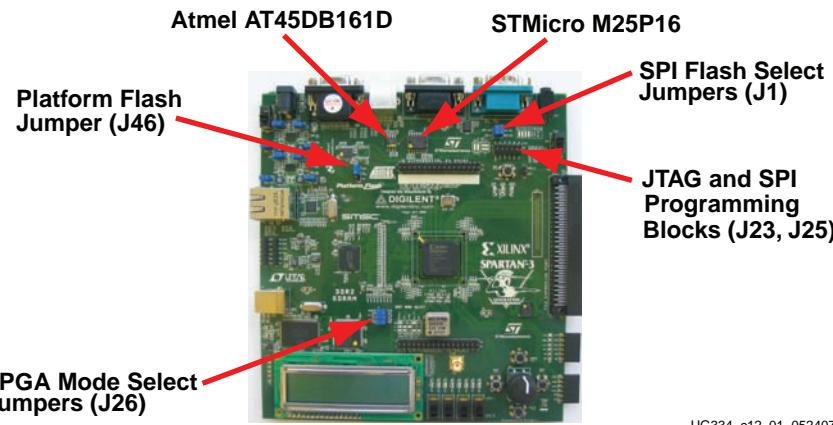
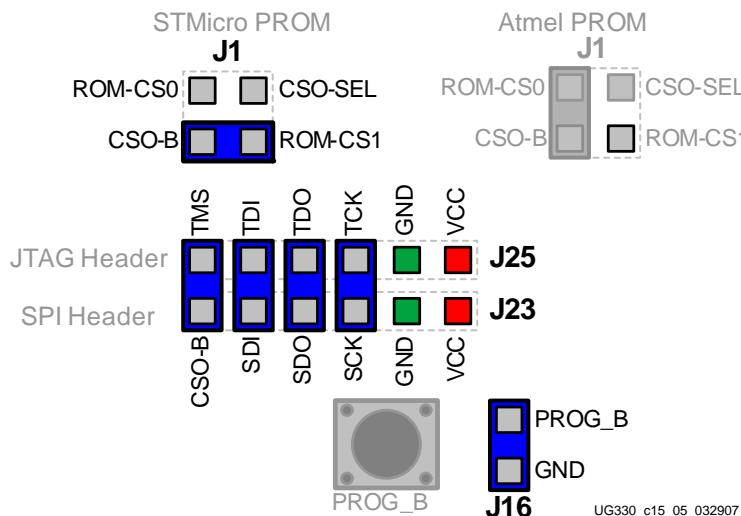

Figure 12-1: SPI Serial Flash PROMs and Associated Jumpers
Figure 12-4: Jumper Settings for Direct SPI Flash Programming
The Spartan®-3A/3AN FPGA Starter Kit board includes two different styles of SPI serial Flash, as shown in Figure 12-1. Only one style is available to configure the FPGA. After configuration, however, the FPGA application has full access to both PROMs for data storage or Flash update purposes.
The J1 jumper block, shown in Figure 12-1, defines which SPI Flash PROM is connected to the FPGA for Master SPI mode configuration and which is optionally available via a separate, second SPI slave select signal.
3. Locate the J1, J23, and J25 jumpers in the upper right corner of the board, using Figure 12-1 as a guide. Figure 12-4 also provides a reference diagram.
4. Insert a jumper in jumper block J1, as shown in Figure 12-4. The figure shows the setting to program the STMicro M25P16 PROM. Alternatively, set the jumper to program the Atmel AT45DB161D DataFlash PROM.
5. Insert four jumpers between jumper blocks J25 and J23, as shown in Figure 12-4. These jumpers connect the embedded USB JTAG programmer on the J25 jumper pins to the SPI PROM via the J23 jumper pins.
6. Set the FPGA mode select pins for Master SPI mode using jumper J26, as shown in Table 12-4. The location of the J26 jumper appears in Figure 12-1.
7. Disable the Platform Flash PROM by removing jumper J46, shown in Figure 12-1 and Table 12-4.
8. For direct programming, the FPGA's PROG_B pin must be held Low. Insert a jumper in jumper J16, as shown in Figure 12-4. This holds all the FPGA's I/O in three-state to allow the JTAG programmer full access to the SPI PROM pins.
2. Insert a jumper in jumper block J1, as shown in Figure 12-4. The figure shows the setting to program the STMicro M25P16 PROM. Alternatively, set the jumper to program the Atmel AT45DB161D DataFlash PROM.